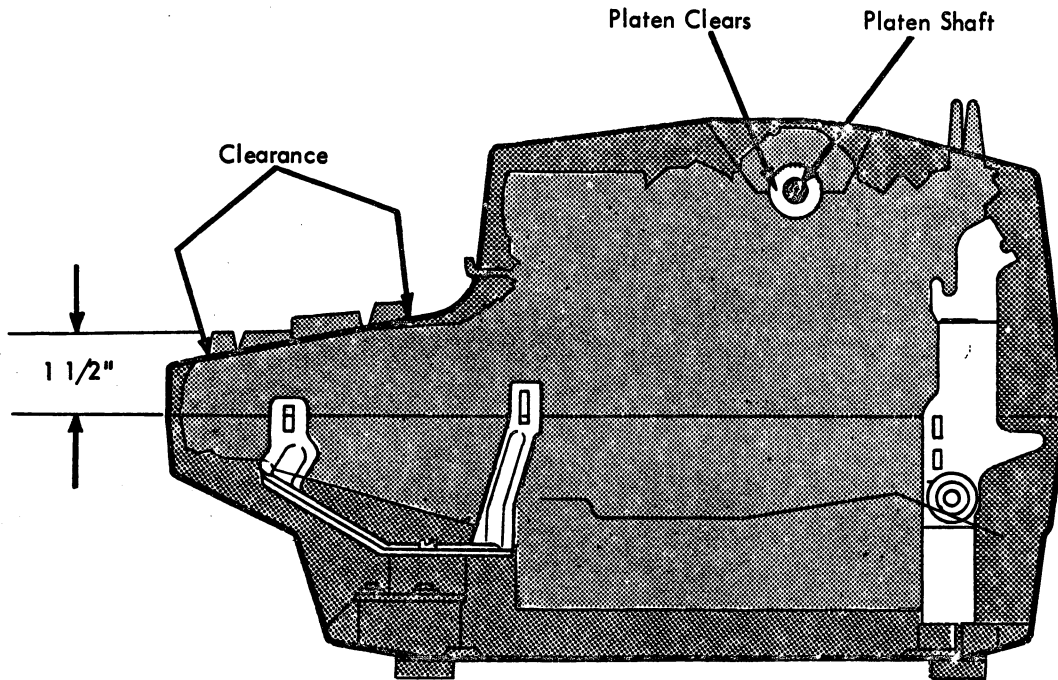

FIGURE 284. Tilt Up Covers
5. Tilt-Up Covers - With the printer resting in the bottom cover position the printer relative to its mounting brackets (Fig. 284) for the following conditions:
- a. The keybuttons have equal front and rear clearance with the center cover (Fig. 284).
- b. The platen clears the covers in the extreme front and rear positions (Fig. 284).
- c. The paper guide clears the deflector .020" to .040" (Fig. 284).
- d. The top of the space bar should be approximately 1-1/2" above the top edge of the bottom cover (Fig. 284).